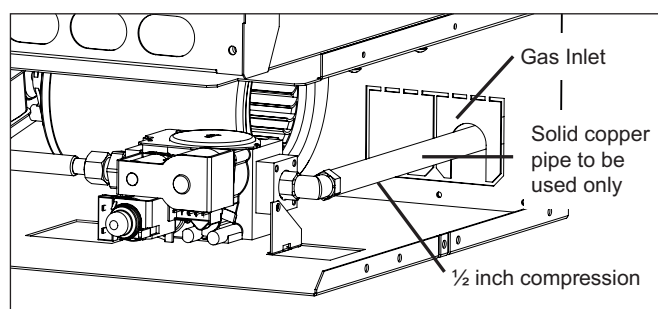

FIG 26
1. Push the gas inlet access plate into the heater cabinet and slide the heater into the fireplace ensuring that the gas inlet pipe is fed through the hole located at the rear right hand side of the heater at the bottom. Refer **FIG 26**.